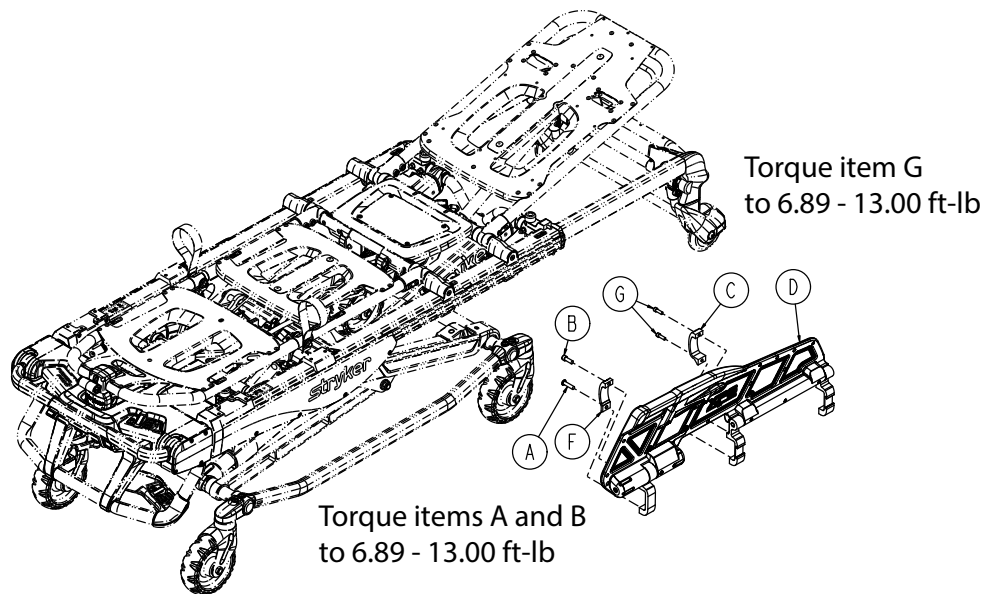

Figure 34 – Replace the XPS siderail
6. Using a 1/4" hex wrench, remove the hex socket button head cap screw (A), socket head cap screw (B) and XPS inner bracket (F) that secure the ratchet assembly at the foot end of the main assembly (Figure 34). Save the screws and bracket.
7. Using a 3/16" hex wrench, remove the two socket head cap screws (G) that secure the siderail clamp (C) to the outer rail assembly (Figure 34). Save the screws and clamp.
8. Remove and discard the XPS assembly (D) (Figure 34).